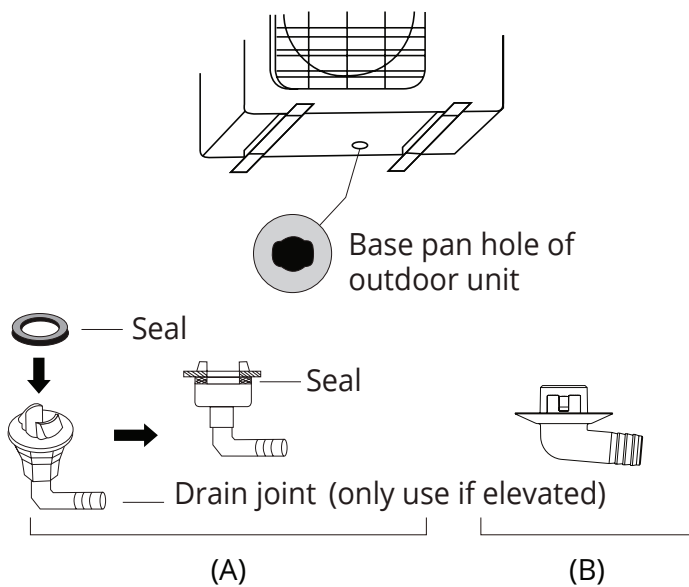

Fig. 5.4
**If the drain joint comes with a rubber seal** (see Fig. 5.4 - A), do the following:
**If the drain joint doesn't come with a rubber seal** (see Fig. 5.4 - B), do the following: